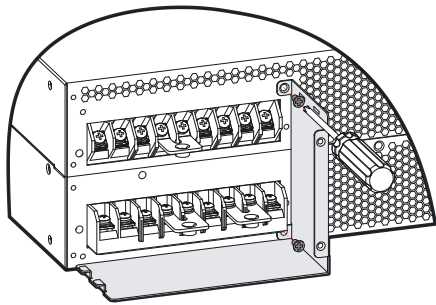

Figure3-16 Install type-L protection plate 1
- Step 1 Take out the protection cover, and fasten one type-L protection cover to the back of the UPS by 2 pieces of flat head screw M4, as shown in Figure3-16.